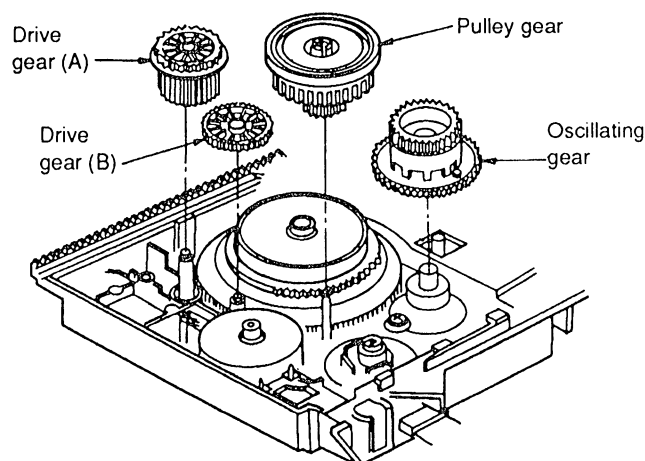

Fig.5
8. Install the drive gear (B), the drive gear (A), the oscillating gear ass'y and the pulley gear. (See Fig. 5)